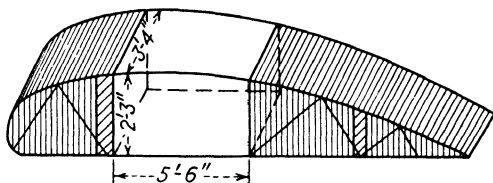

Fig. 89.
6. *Approximately* how many cubic feet of baggage can be stored in the plane wing compartment shown in Fig. 89?